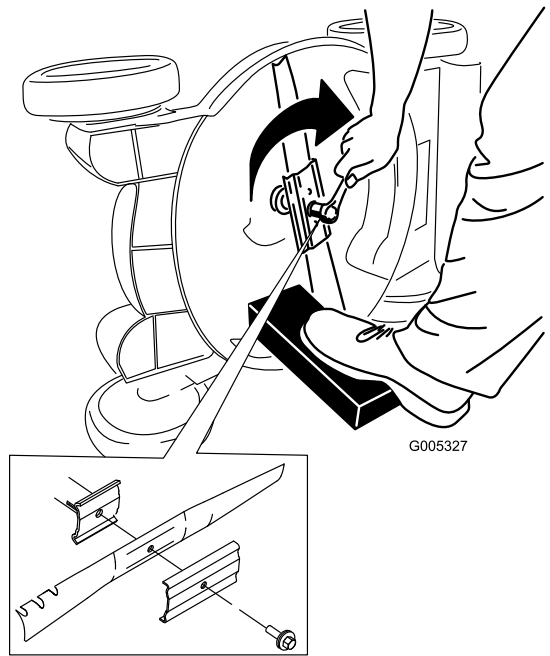

Figure 47
5. Install the new blade and all mounting hardware (Figure 47).